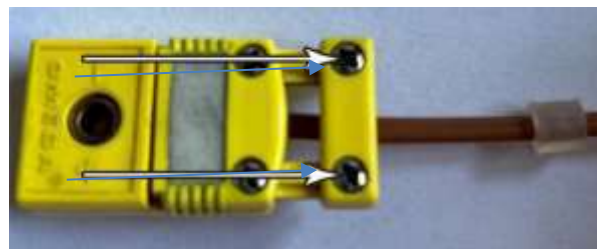

Figure 146
- (12) Tighten contact washer screws until wires are secure. Do not over tighten, as damage to wire can occur.
- (13) Install top cover, ensuring red grommet seats into recess in cover as shown in Figure 146.
- (14) Tighten the two screws that secure the cover, indicated by the arrows in Figure 146.